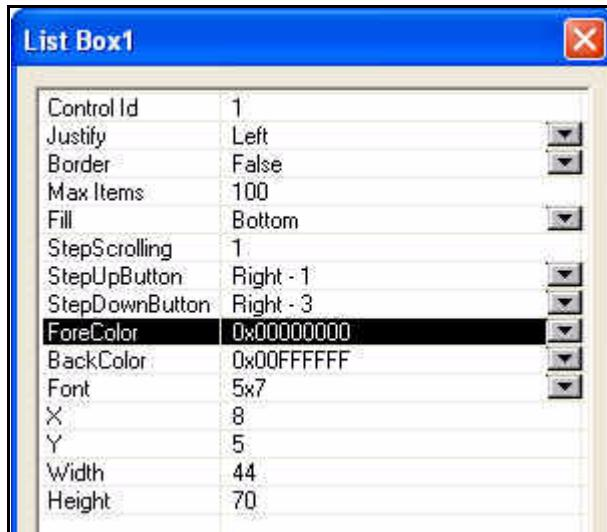

Figure 2-39 List Box Properties Box
4. Double click the List Box to open the properties box to configure the look and action of the box. Default settings are shown in Figure 2-39.